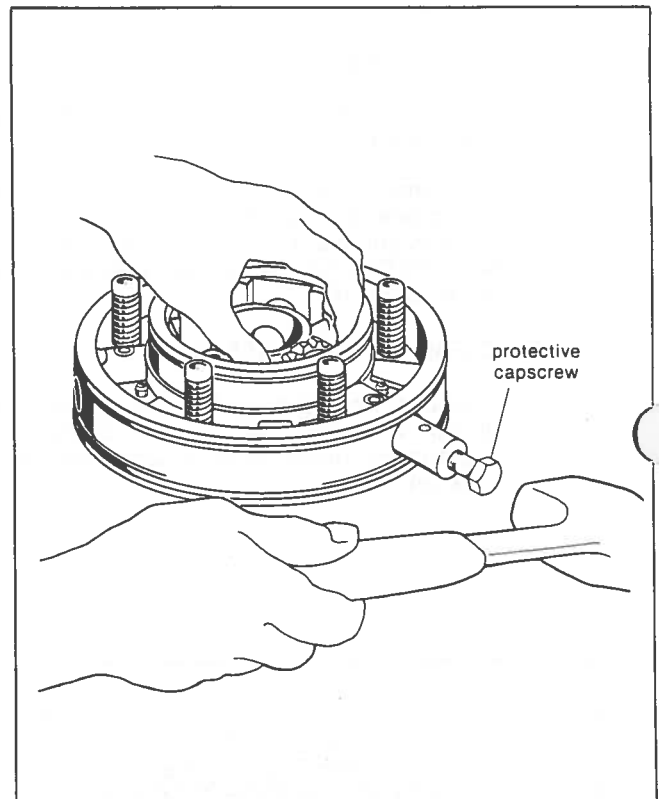

Figure 20. Installing Pinion Shaft in Gear Carrier.
C. (Gloves may be required since gear carrier is hot). Insert protective 3/8 - 24 capscrew in pinion shaft and tap shaft into carrier bore making sure holes are in line (see fig. 20).